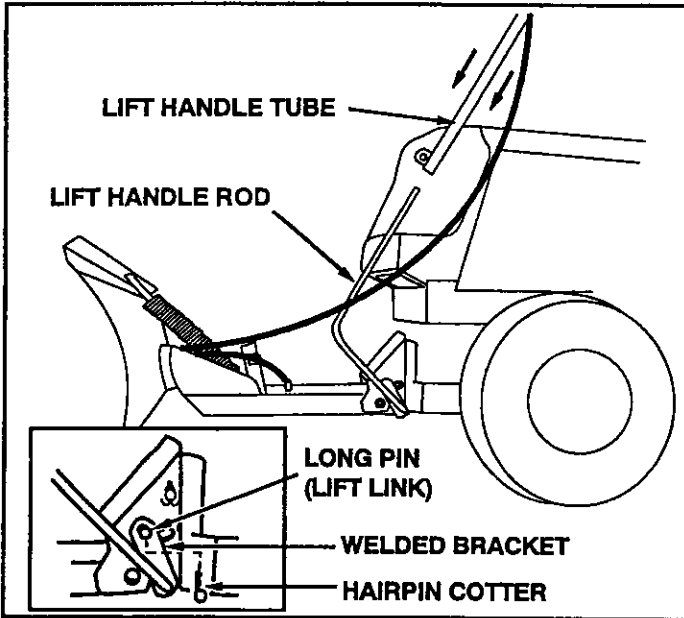

FIGURE 15 (Left Hand Side View)
- From the left side, insert the welded end of the lift handle rod through the exposed holes in the end of the channel assembly. Next, insert the lift link pin through the hole in the bracket that is welded to the lift handle rod. (The lift link is pre-assembled to the pivot support bracket). Secure the bracket with a hairpin cotter inserted up through the lift link pin all the way to the loop end of the hair pin cotter. See figure 15.
- Using the furnished grease packet, apply a light coating of grease to the straight upper portion of the lift handle rod. Slide the lift handle tube onto the rod. See figure 15.
- Remove the hairpin cotter which fastens the lift handle rod to the lift link pin. See figure 15, page 9.